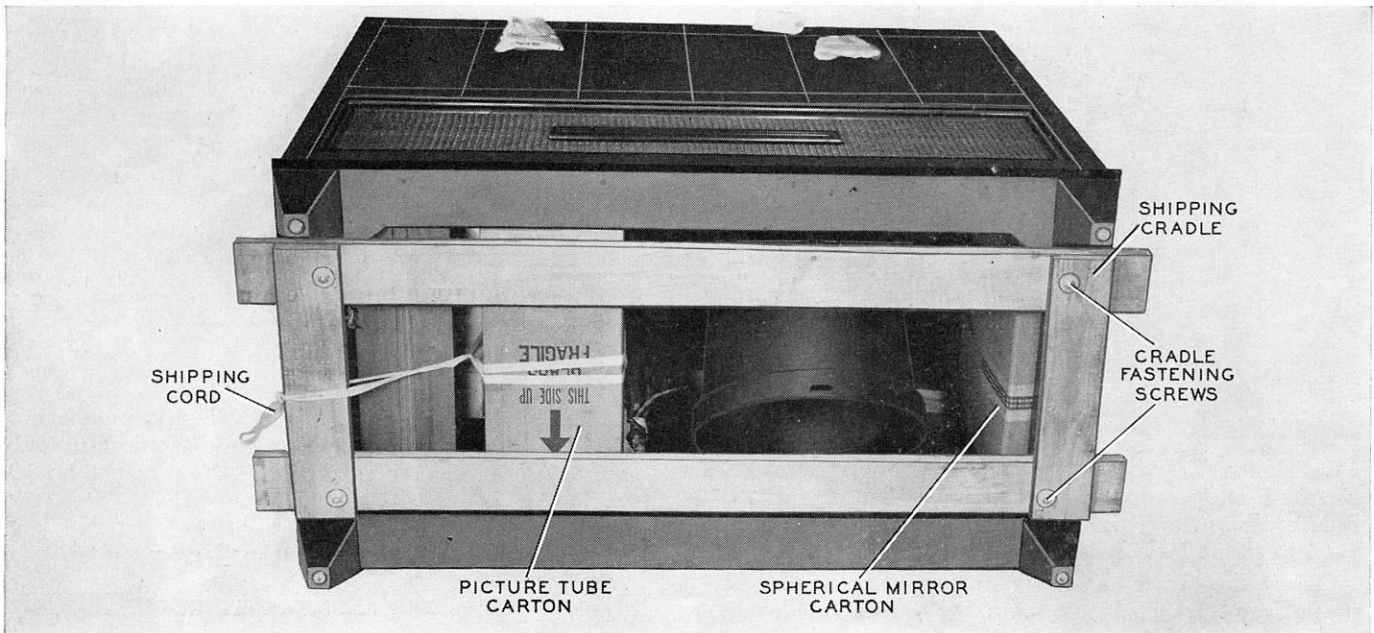

FIGURE 2. Bottom View
5. Untie the shipping cord which fastens the picture-tube carton to the shipping cradle, and then remove the shipping cradle and carton. See figure 2.